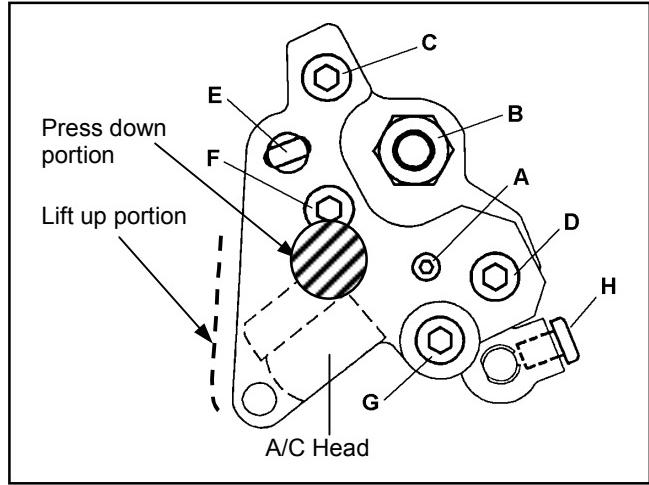

Figure 3-13-4
- Press and Lift up A/C Head lightly (refer to figure 3-13-4), then confirm that the CTL and CUE output level is within the specification.
- Confirmation of the level has to be done after the screw (H) is tighten completely. (refer to A/C Head Adjustment Method)
1. Press and Lift up A/C Head lightly (refer to figure 3-13-4) then confirm that the CTL and CUE output level is within the specification.
2. If it is out of spec., loosen the screw (H) and adjust the screw (B) until Cue output is maximized. (refer to item "3-15 A/C Head Height Adjustment".)